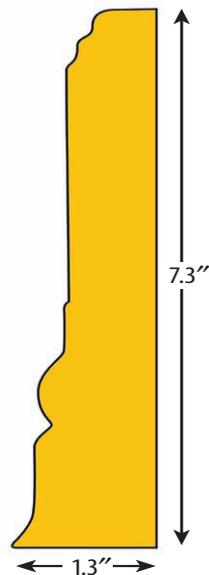

FIGURE 3.22
9. Select the original spline and delete it. Click Line to exit Spline mode. Because we are using the newly created spline for the baseboards, we don't need the original line. Now we'll create the shape of the molding, shown in Figure 3.22.